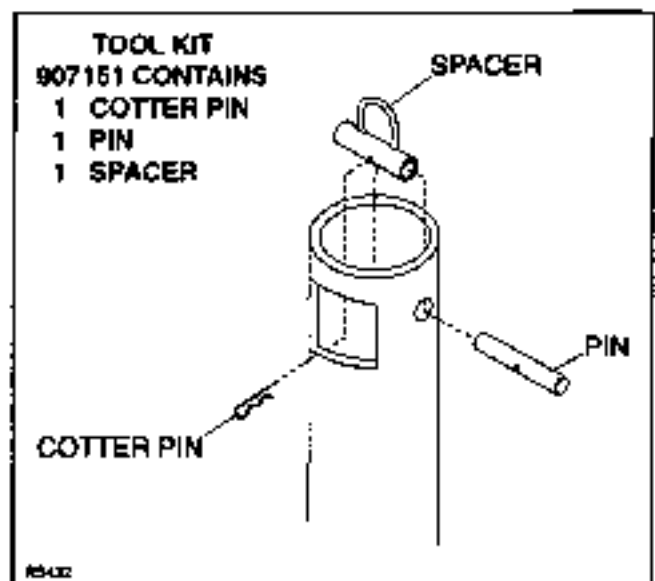

Figure 5-7. Pivot Tube Removal Tool
2. Position a support under pivot tube (7, Figure 5-7).
4. Remove pivot cap cover (21).
6. Remove pivot cap (3) and spacer (1, Figure 5-7).
- a. For trucks serial numbers 333620 to 346721, 346723 to 346750, 346752 to 346926, 346928 to 346934, and 346936, use the two pivot cap cover screws (22) as a means of attachment for the chain hoist. Secure the chain hoist to the pivot tube.
- b. For trucks serial numbers 346722, 346751, 346927, 346935, 346937 and higher, use tool kit part number 907151. Position spacer, Figure 5-7, inside the pivot tube. Insert the pin through the support tube and secure with the cotter pin. Attach chain hoist to the spacer.